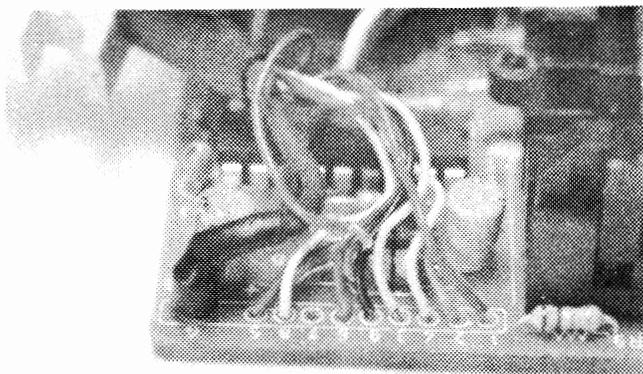

Figure 4
Step 10. Unsolder wire #7 (as marked on the top of the PC board) by unsoldering it underneath the PC board. (This wire brings the +5 volts from the joystick port to the mouse). See Figure 4.